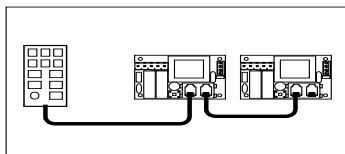

Figure 4
3.2 CS-Bus User Control Devices (Intelligent Keypads and remote IR receiver wiring **ONLY-not low voltage non-intelligent keypads**). (See Figure 4 below.)